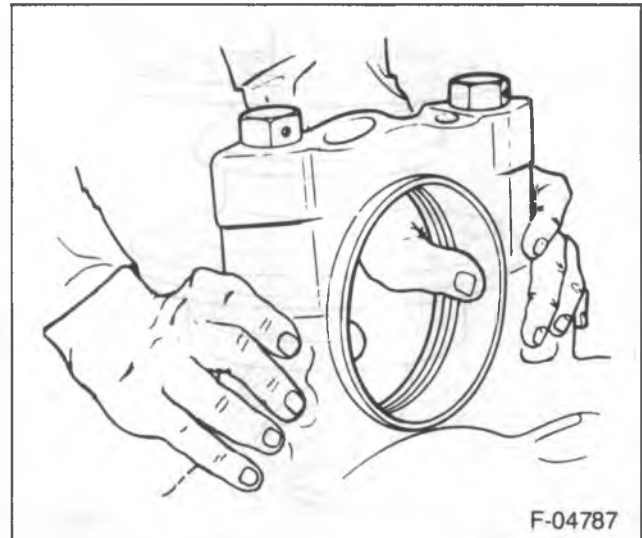

Figure 23—Checking the Bearing Cup Fit
- The bearing cups must have a hand fit in the bearing bores: If the fit is too tight, rework the bore with emery cloth, until a hand fit is obtained (figure 23).